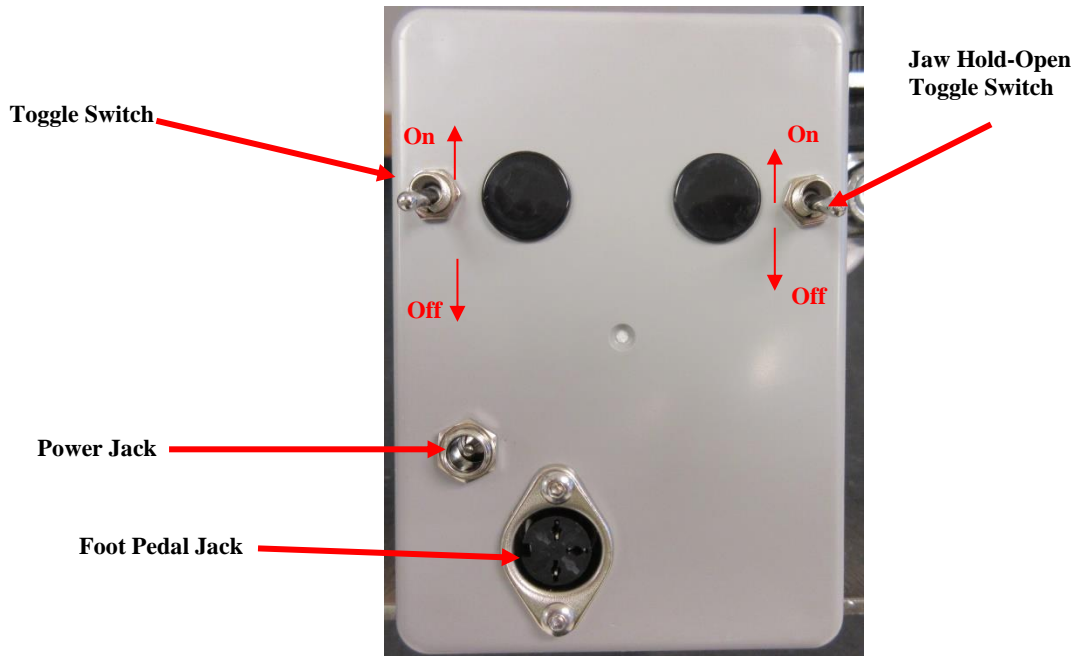

Figure 2.3.1
- Setting up the connections on the CRD201 is a simple task. Refer to *Figure 2.3.1* below when making all connections to the back panel.
- With A/C power and compressed air attached to the expander, actuate the electric foot switch which will activate the expander. Adjust the expander lower jaw to the position you want using the **Thumb Wheel Knob**. Note that the jaws may be set to remain in the “open” position using the toggle switch noted in **Figure 2.3.1**, and triggering the foot pedal. Make sure the toggle switch is returned to the “off” position, or the jaws will remain open.